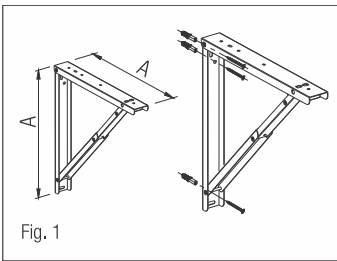

Fig. 1
1. Screw the Side Bracket to the wall with wall plugs and screws (Refer Fig. 1). The wall must be of solid wood, brick work or concrete only. Do not use plywood, block board etc.